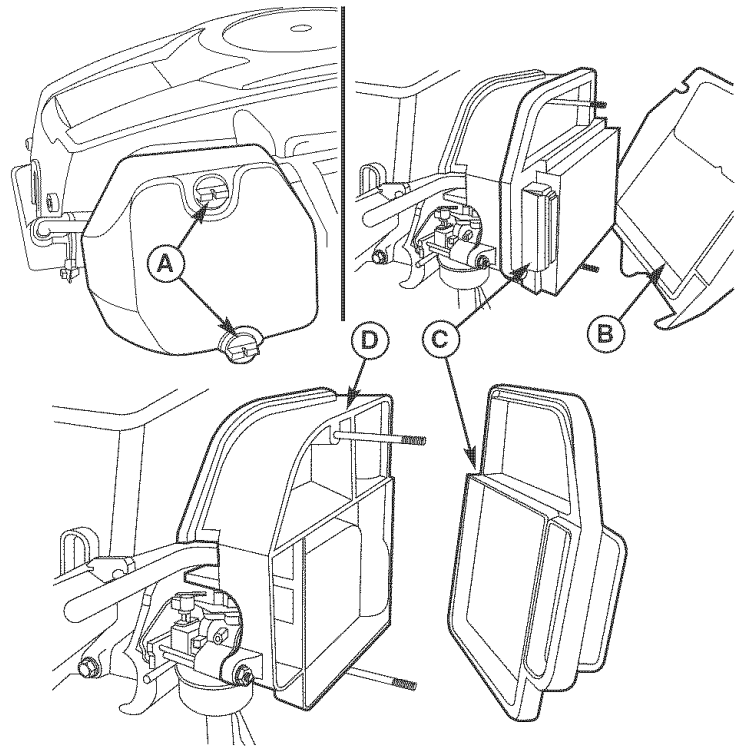

Figure 28. Air Filter Assembly - Kohler Models
1. Loosen the air filter cover knobs (A, Figure 28) and remove the cover (B). Clean out any debris from around the air filter. Inspect the condition of the sealing surfaces of the air filter element (C) and filter base (D). Replace any damaged parts.
2. Remove the air filter element (C).
3. Install the new air filter element with the pleated side out and seat it onto the edges of the air cleaner base (D).
4. Reinstall the air filter cover (B) and secure with the two knobs (A).